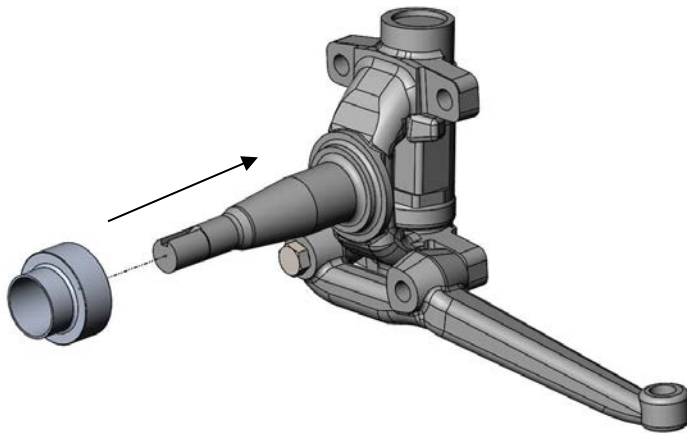

Figure 1a – Installing the Bearing Adapter (Driver Side Shown)
4. A bearing adapter must be installed on the spindle pin. This is required due to the need for a sealing surface for the rotor grease seal and the change from a roller bearing to a tapered bearing. To install the bearing, place the adapter on the spindle as shown in Figure 1a and 1b on the following page. The bearing adapter can be installed using one of the three following methods: